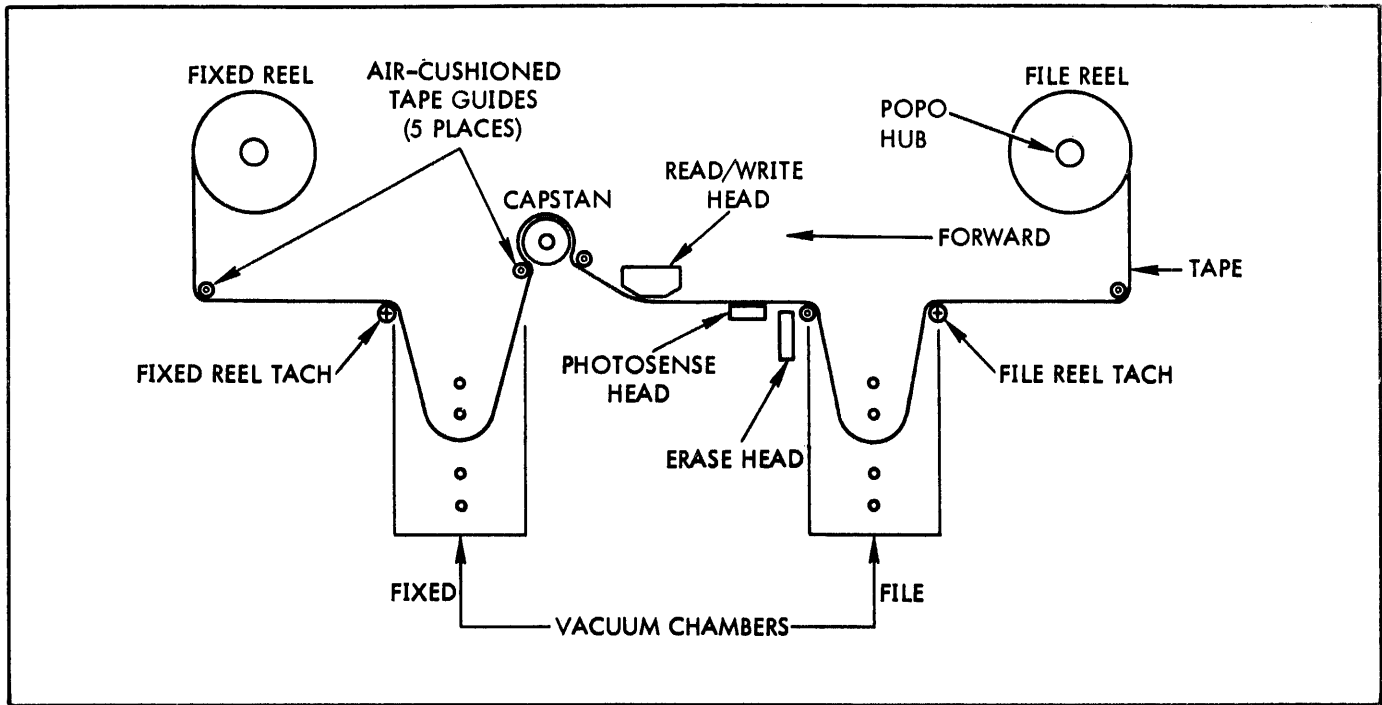

Figure 6. Magnetic Tape Transport Tape Path
The procedure for loading a magnetic tape transport is as follows (see Figure 6):
6. Thread the tape along the path shown in Figure 6. Wind two to four turns of tape onto the fixed reel. (Since the tape unit provides an automatic tape-loading feature, it is unnecessary to manually feed tape into the vacuum chambers.)